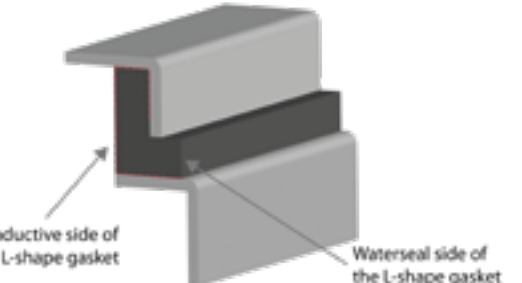

Figure 54: Example image of a L-shape gasket
- 54 L-shaped gasket** can be used in constructions where EMI with water sealing is required and when there is just one flange. Maximum compression is 30%. (Fig. 54)